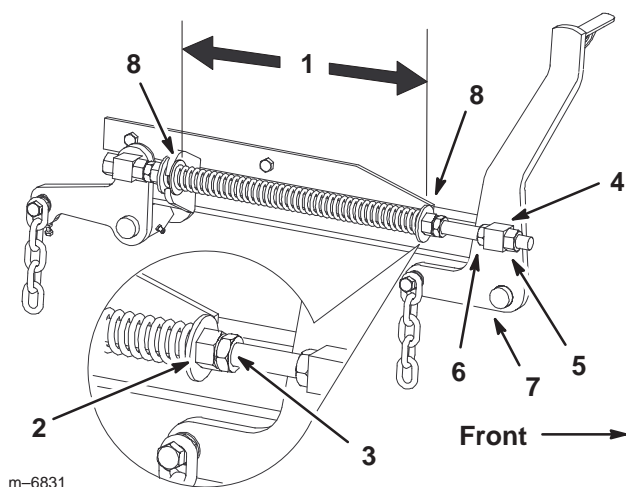

Figure 72
7. Loosen the front swivel jam nuts, at the front of the right and left swivels, approximately a 1/2 inch (13 mm) (Fig. 72).
8. Adjust the lift nuts on both the left and the right side of the machine to achieve **1/4 to 3/8 inch (6 to 10 mm) lower in front at A than in the rear at B** (Fig. 72).
2. Check the distance between the two large washers, it needs to be 10-1/2 inches (26.7 cm) (Fig. 72).
3. Adjust this distance, by loosening the spring jam nut and turning the nut in front of each spring (Fig. 72). Turning the nut clockwise will shorten the spring; counter-clockwise will lengthen the spring.
4. Lock the nut into position by tightening the spring jam nut (Fig. 72).